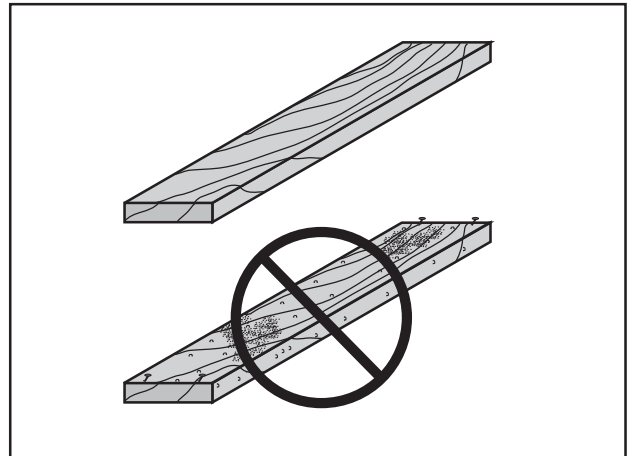

Figure 55. Choosing wood without foreign objects embedded.
- **Foreign Objects (Figure 55):** Nails, staples, dirt, rocks and other foreign objects are often embedded in wood. While cutting, these objects can become dislodged and hit the operator or break the blade, which might then fly apart. Always visually inspect your workpiece for these items. If they can't be removed, do NOT cut the workpiece.